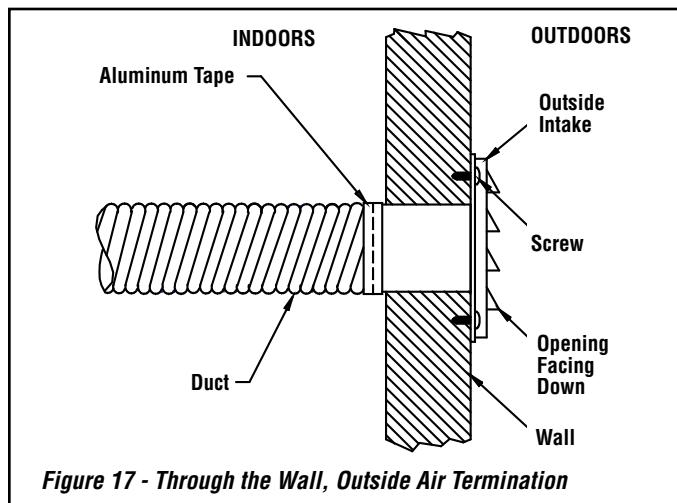

Figure 17 - Through the Wall, Outside Air Termination
- B) The air intake register must not be installed more than ten (10) feet (3050 mm) above the base of the stove.
- Make a 4-1/4" (110 mm) hole in the outside wall of the house at the chosen location. From outside, place the outside air register in the hole (open side down) and fasten the register to the wall, with screws as shown (see **Figure 17**).